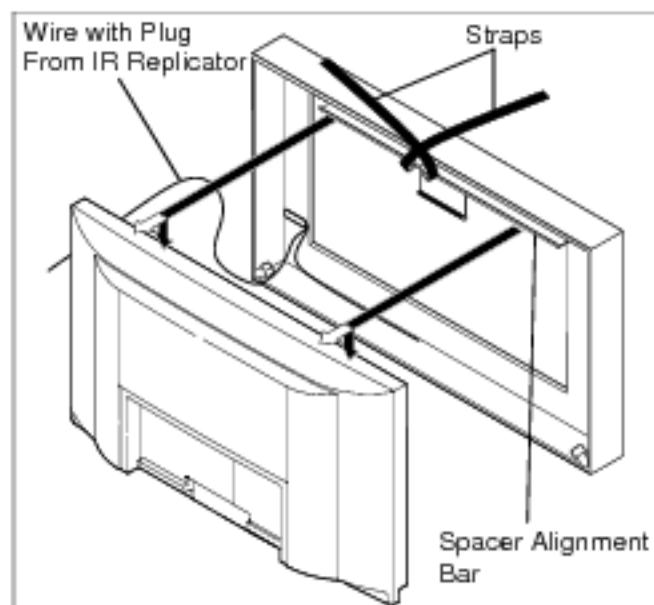

Figure 7
(See Figure 7)
16. Route wire from IR Replicator with plug out of frame at lower corner. (See Figure 7)